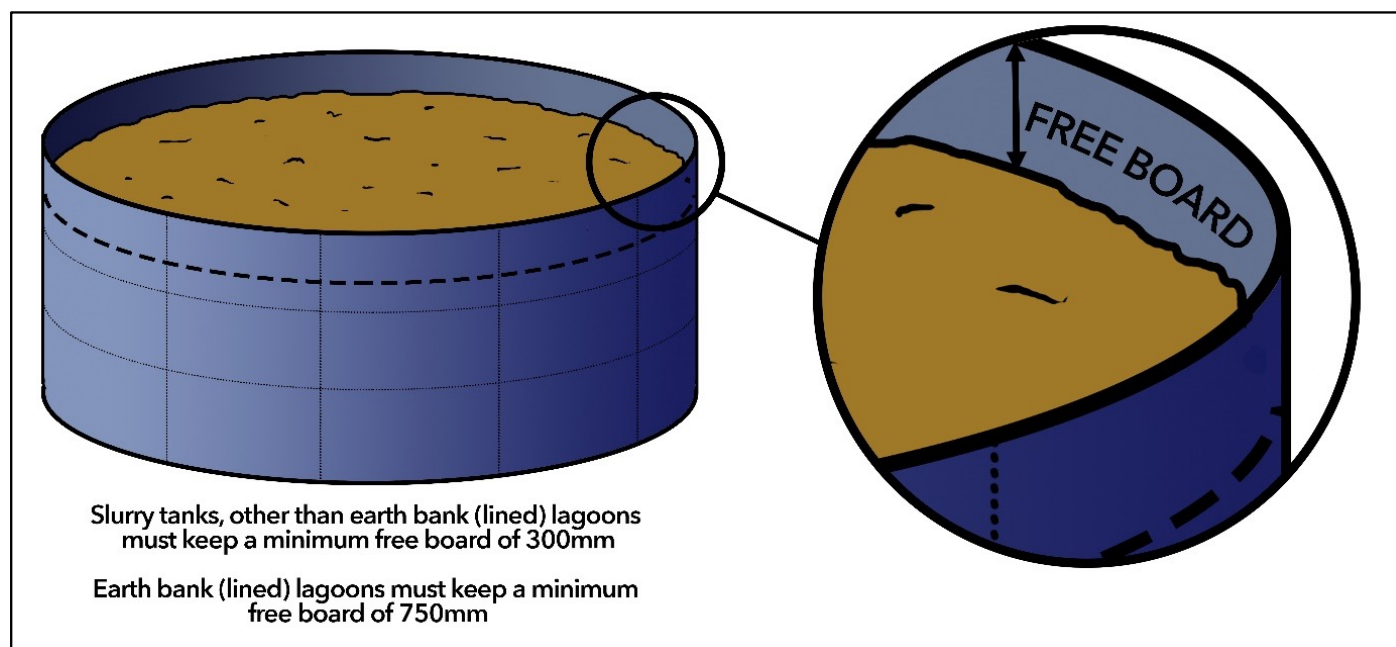

Figure 1.2. Slurry storage freeboard requirement
- earth bank lined lagoons maintain a minimum freeboard of 750mm and all other slurry tanks maintain a minimum freeboard of 300mm (Figure 1.2).